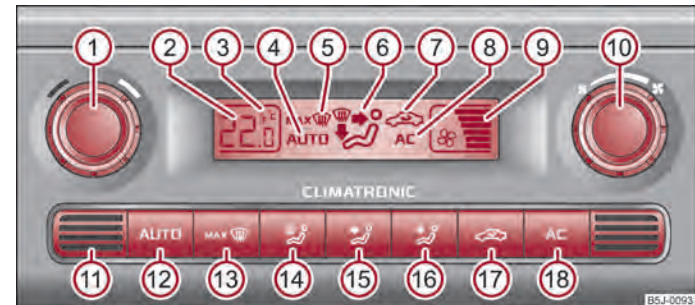

Fig. 80 Climatronic: Control elements
- Press the button (AUTO) ⇒ fig. 80.
Press and hold the buttons (AUTO) and (AC) ⇒ fig. 80 at the same time. The information in the desired temperature measuring unit appears in the display.
- Press the button **MAX** ⇒ fig. 80.
- Turn the control dial ⑩ ⇒ fig. 80 to the left (reduce blower speed) or right (increase blower speed).
- Press the button   => fig. 80,  appears in the display.